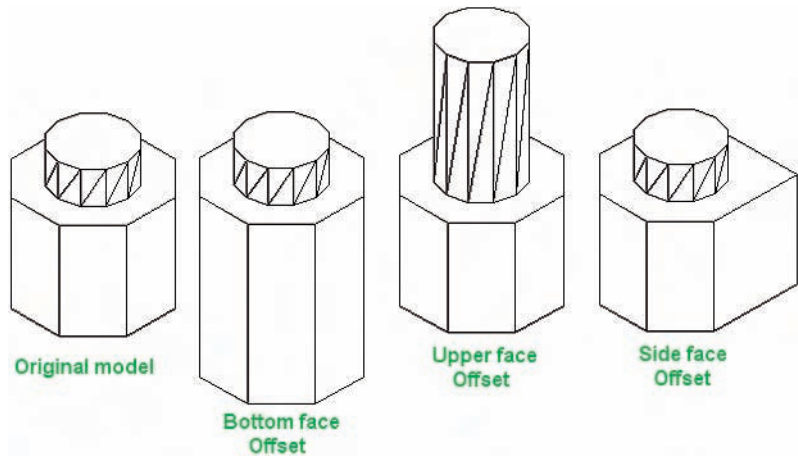

Fig. 19.9 Third example – **Offset faces** tool
Fourth example – Offset faces (Fig. 19.9)
1. Construct the 3D solid drawing shown in the left-hand drawing of Fig. 19.9 from a hexagonal extrusion and a cylinder which have been merged using the **Union** tool.